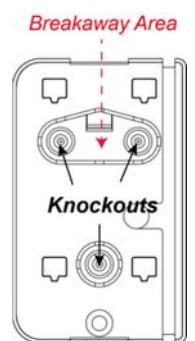

FIG. 2
- 1) The provided mounting bracket has 3 knockouts where the plastic is thinner and can be broken for mounting purpose. (**FIG. 2**)